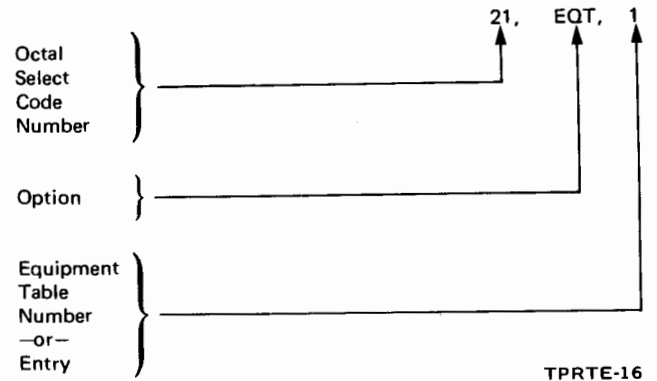

Figure 6-7. INT Table Example
STEP 26 — This table allows the user to establish interrupt links that tie the octal select codes back to EQT numbers. Each I/O card (select code), in ascending order, is referenced back to its EQT entry number that was established in the Equipment Table Entry part. If dummy I/O slots were used to reference EQT numbers for the Batch and Spool Monitor Driver DVS43, interrupt links for those entries are also necessary. For example (refer to the sample generation in Appendix C), EQT number one (the first entry) was assigned to I/O slot 21, DVR31. Now, in the interrupt table, I/O slot 21 will be referenced back to EQT number one. In this manner, an interrupt occurring on I/O slot 21 will be directed to EQT number one which has the address of DVR31 and that driver will be entered. The format for the entry is shown in Figure 6-7.
Refer to Figure 6-7 and construct the entries for the interrupt table as follows: